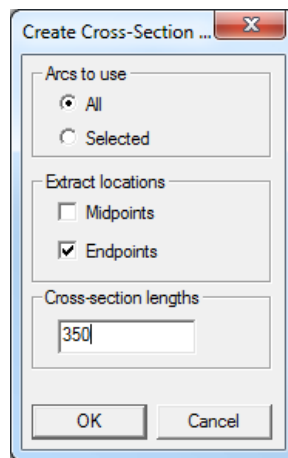

Figure 9 Values for Creating Cross Section Arcs from 1D Network
9. Make Sure the Dialog looks like Figure 9 and click *OK*.